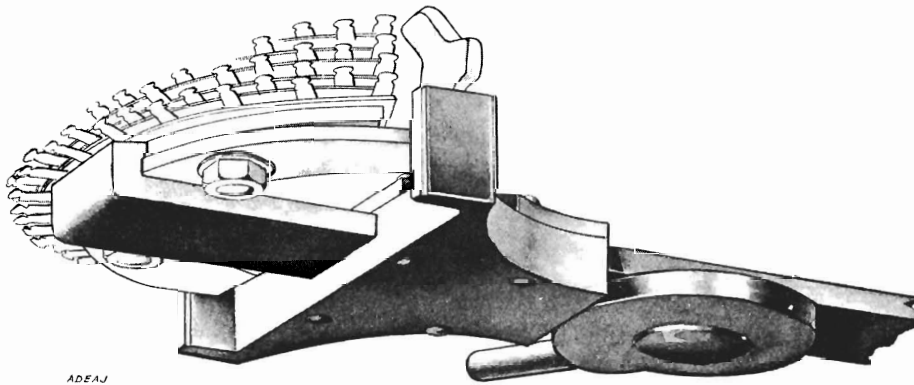

FIG. 8. "ADJUSTER, SELECTOR-BANK" IN POSITION UNDER, AND BEHIND, THE LOWER BANK PLATE
- (b) Hinge the gauge forward, and away, from the lugs on the lower bank-plate sufficiently to allow the adjuster to be placed in position under, and behind, the lower bank-plate, as shown in Fig. 8.